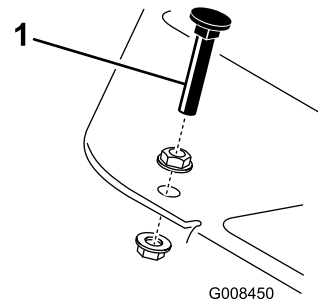

Figure 44
Press down on the traction pedal. If the pedal contacts the stop (Figure 44) before tension is felt on the cable, an adjustment is required:
1. Loosen the flange-head locknuts securing the pedal stop to the floor plate (Figure 44).